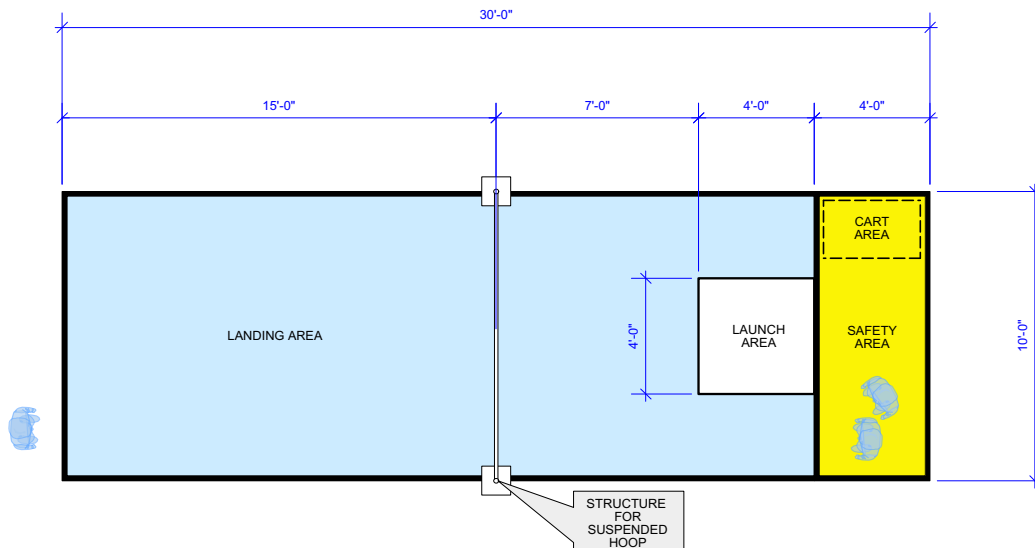

Figure 3a. Course specifications for Challenge Rig
1. Launcher area will be 7' [2.1 m] away (measured on the ground) from the suspended hoop. See Figures 3a and 3b.